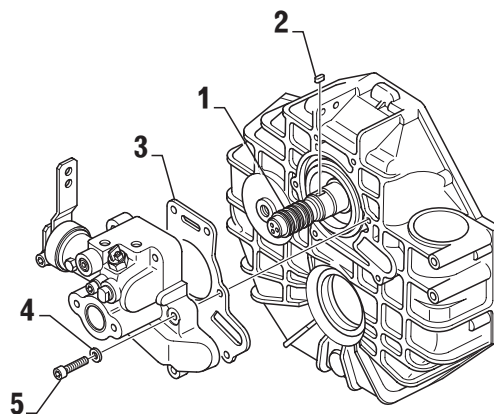

FIG. 6-1
Piston rings (item 1, Fig. 6-1) have to be replaced, if thickness is less than 2.39 mm (0.094in).
- a) Insert key (item 2, Fig. 6-1) into groove of shaft.
- b) Place new seal (item 3, Fig. 6-1) onto control block.
- e) Insert lock washers (item 4, Fig. 6-1) on socket head bolts (item 5, Fig. 6-1) and provide screw threads each with a drop of Loctite 243.